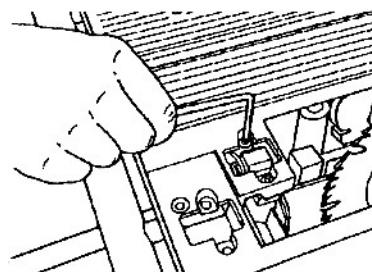

Fig. B-24
- a. Use a 5/32" Allen wrench to slightly loosen the two capscrews (shown in Figs. B-24 and B-25) located in the front of the carriage.
a. Use a 5/32" Allen wrench to slightly loosen the two capscrews (shown in Figs. B-24 and B-25) located in the front of the carriage.